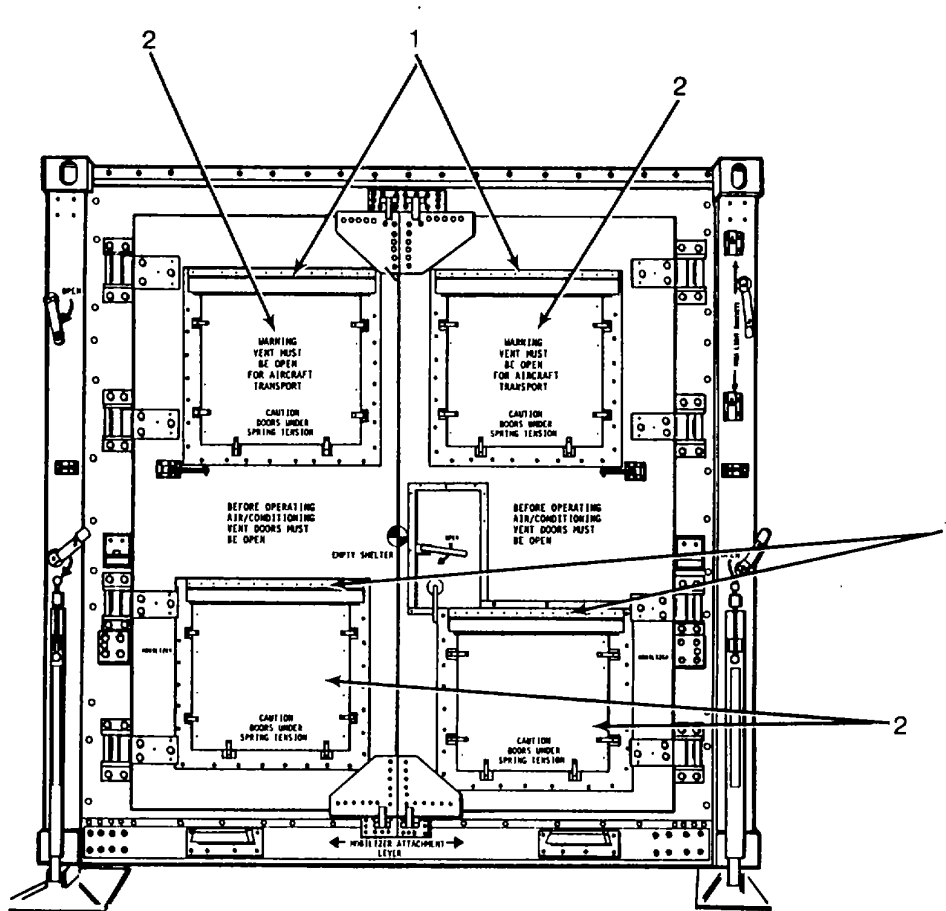

Figure 3-2. Cargo Doors AC Vent Assemblies
3-4. **CARGO DOORS AC VENT ASSEMBLIES.** Refer to figure 3-2. Lubricate hinges (1) on cargo doors AC vent assemblies (2) with lubricant (Appendix E, item 22). Wipe off excess lubricant.